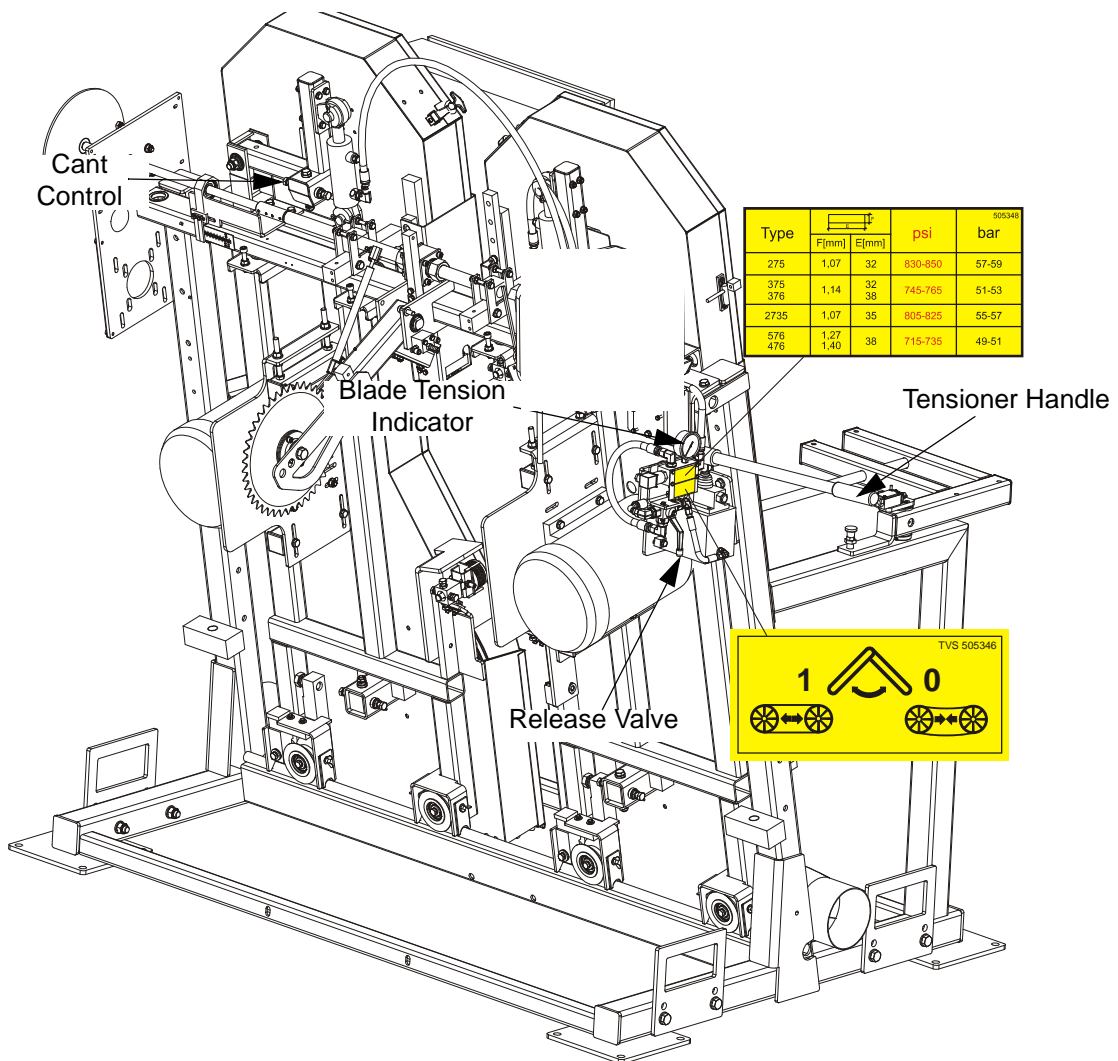

FIG. 2-3
See **Figure 2-3**. Place the provided handle in the blade tensioner socket and secure with a screw. Set the tensioner valve to position “1”. Move the tensioner handle up and down to tension the blade. Depends on the installed blade type, tension the blade to the value shown on the decal located below blade tension valve. Values “F” and “E” are: blade thickness and blade width. Check the blade tension occasionally when adjusting the cant control or while cutting and adjust if necessary. As the blade and belts heat up and stretch, the blade tension will change. Also, ambient temperature changes can cause tension to change. To release the blade tension set the tensioner valve to “0” position.
5. Use the cant adjustment bolt, shown in **Figure 2-3**, to adjust where the blade travels on the blade wheels.